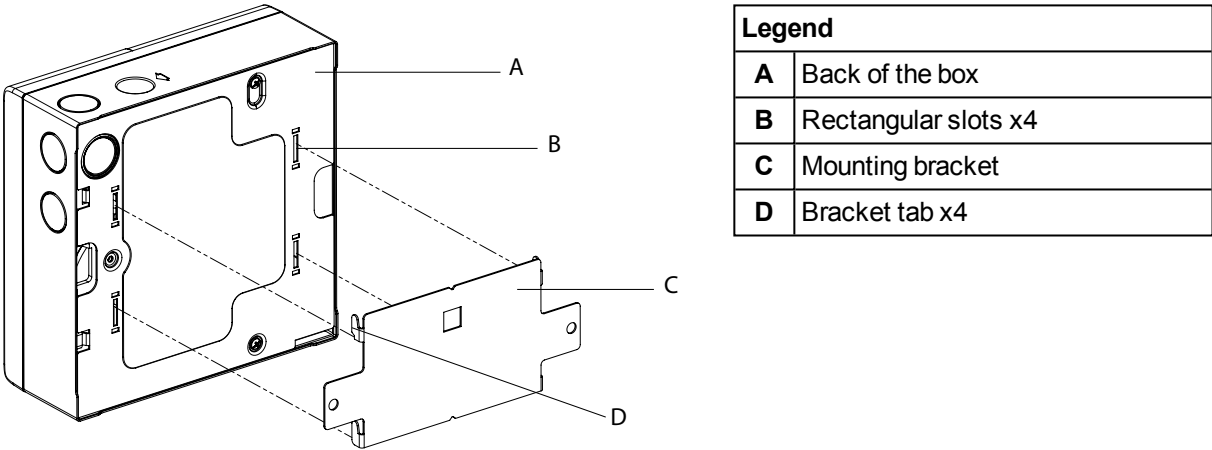

Figure 6-4: Mounting the Detector onto the Mounting Bracket
- b. Mount the detector onto the bracket by placing the four rectangular slots located on the rear of the detector onto the four bracket tabs. Refer to Figure 6-4.